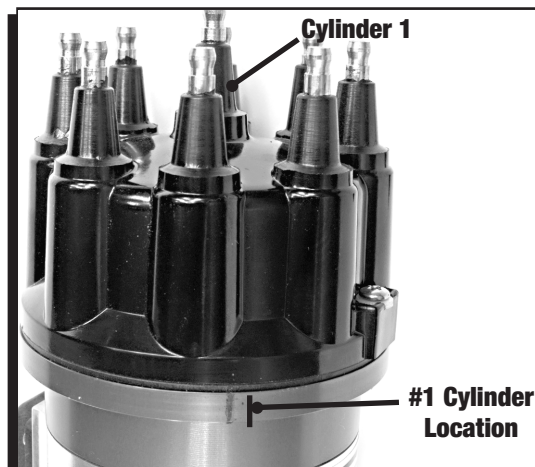

Figure 2 Marking the Number One Location.
4. Locate which cap terminal is going to be the number one cylinder. Mark on the housing this location then remove the cap (Figure 2).